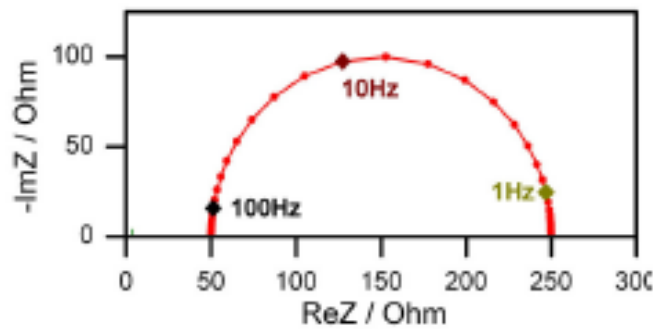

Figure 4
- (b) Upon impedance measurement of a semiconductor, we observe an impedance spectrum as shown in Figure 4. Write down the equivalent circuit for the observed impedance spectrum and calculate the capacitance of the semiconductor: